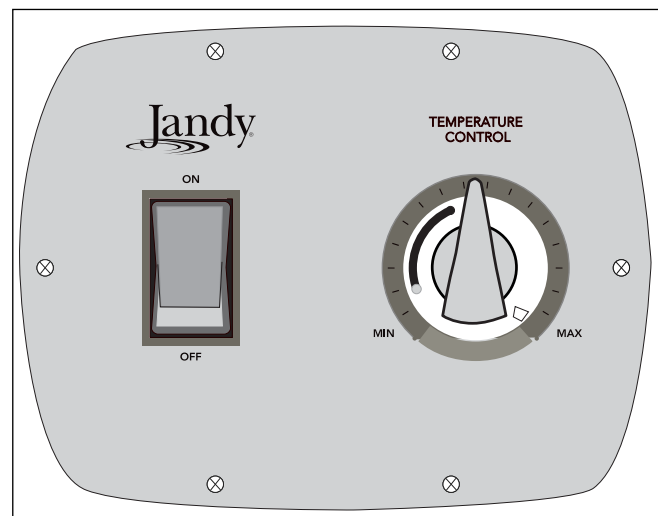

Figure 17. Temperature Control
The temperature control, see Figure 17 is calibrated at the factory and covers a range from approximately 70°F to 104°F (21°C to 40°C). Use an accurate pool thermometer to determine the best water temperature for your uses.
The Legacy temperature control panel has a rocker switch to turn the heater on and off. It also has a rotary dial to set the desired thermostat setting. See Figure 17.
1. Turn the heater control to OFF. See Figure 17.